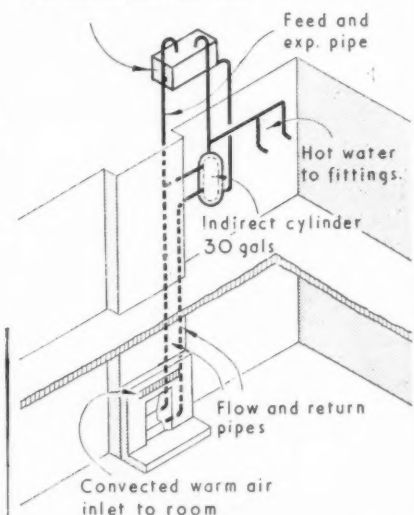

Fig. 21. Pipe layout of hot water supply from an open fire with back boiler.
1. Open fire grate with back boiler used (Fig. 21) in the more usual arrangement for